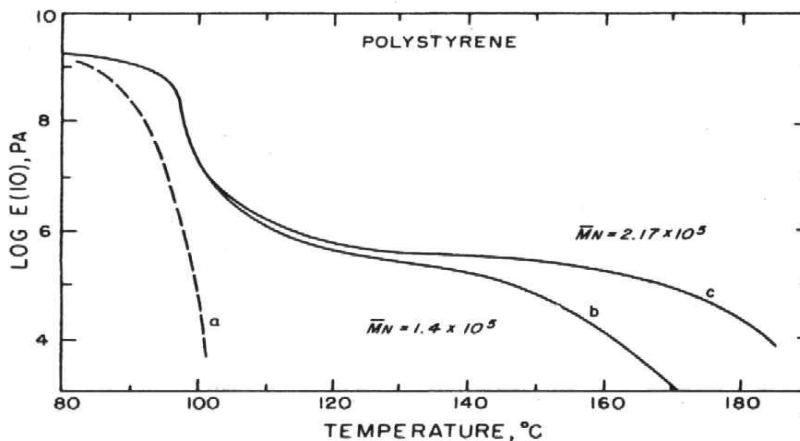

Figure 8. Ten-second modulus versus temperature curve for polystyrene of various molecular weight
(1) Molecular weight ( $M_w$ ) and molecular weight distribution(MWD)
① number average molecular weight( $M_n$ ), weight average molecular weight( $M_w$ ), polydispersity index(PDI:  $M_w/M_n$ ) (Figure 8)